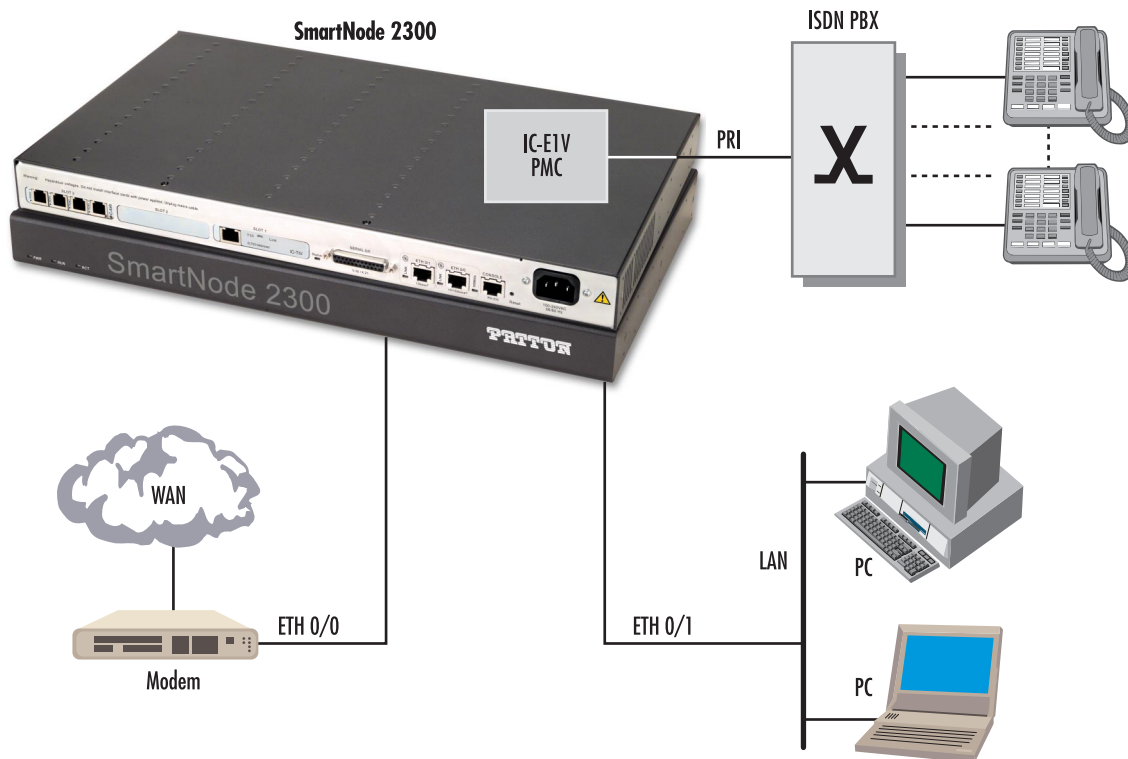

Figure 34. SmartNode 2000 Series device connected to a PBX via one PRI (with IC-E1V card) into an IP network
In figure 34 the SmartNode 2000 series with an optional IC-E1V interface card installed is used as a voice gateway and IP router in a company headquarters.
- Figure 34 on page 59